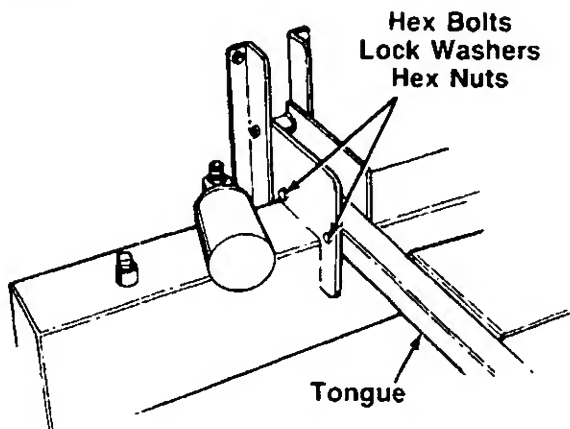

FIGURE 3.
- ← 3. Remove the two hex bolts, lock washers and hex nuts on the front of the reservoir tank. Two 9/16" wrenches are required. Place the tongue in position, and secure with hardware just removed. See figure 3.